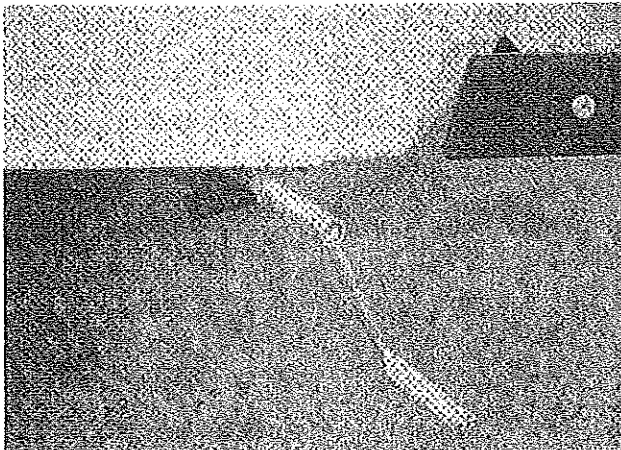

FIGURE 9
2. Insert crank handle onto stabilizer shaft. See Figure 9.